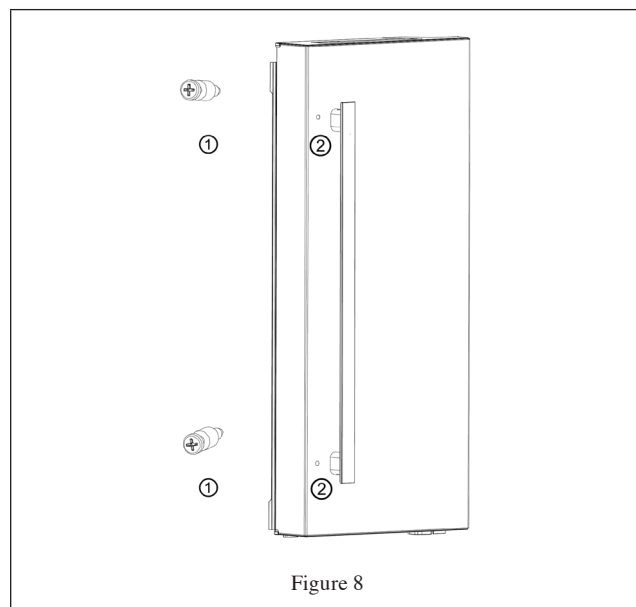

Figure 8
1. Take out bolt ① from accessory bag, then use Phillips screwdriver to fix the bolt ① into the bolt hole ② of refrigerator doors. See Figure 8.